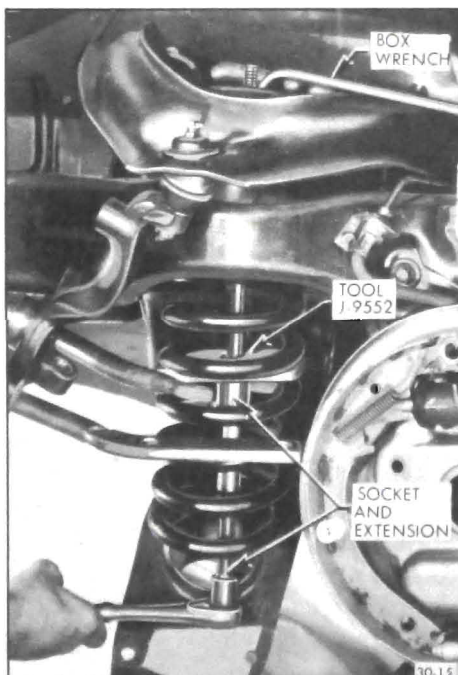

Figure 30-40 - Compressing Front Spring With Tool J-9552
4. Place a box wrench on the upper nut of the tool to keep it from turning. Now tighten the bolt with a 7/8" socket and extension. See Figure 30-40.